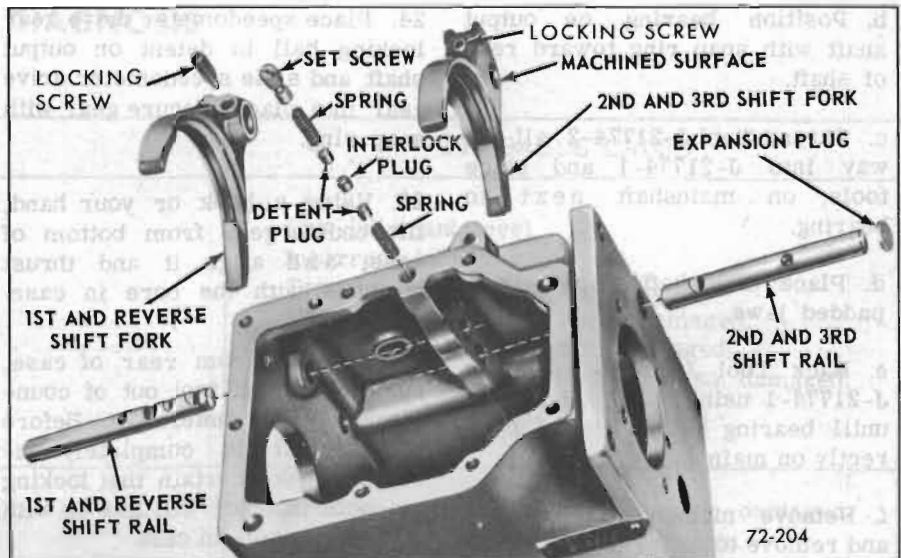

Figure 72-223—Shift Rails, Fork and Detent Plugs
13. Install interlock plug in case. If second and third speed shift rail is in neutral position, top of interlock will be slightly lower than surface of first and reverse shift rail bore. See Figure 72-223.